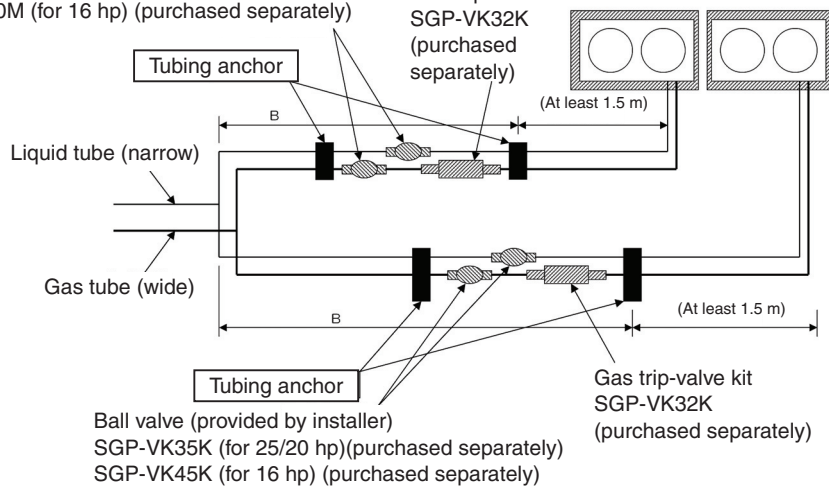

Fig. 21-1
- When anchoring the refrigerant tubing, be sure to set the tubing anchor for each outdoor unit at least 1.5 m away from the respective unit (as shown in Fig. 21-1).